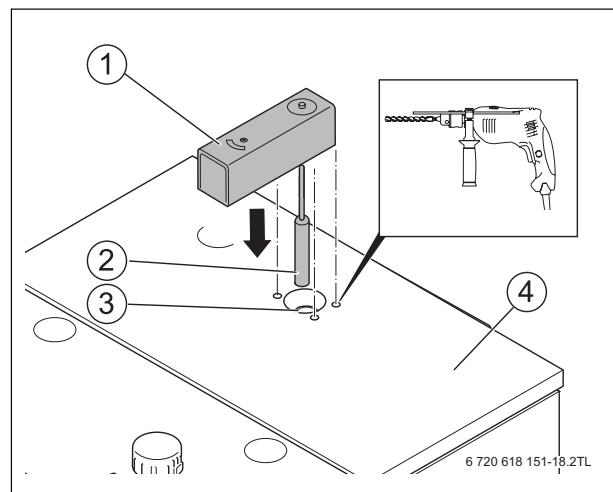

Fig. 23 Installing the Aquastat
- Drill four holes in the rear boiler cover [4] for fastening the Aquastat [1] (→ Fig. 23).